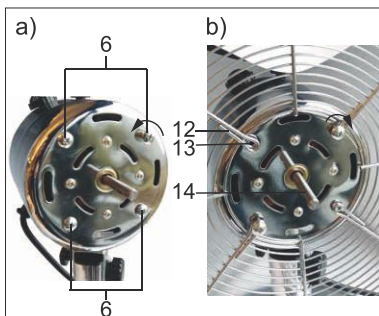

Fig. 12: Mounting rear part protective grills
11. Unscrew the 4 Phillips screws (6) from the engine block by turning them counterclockwise. Fig. 12 a)
12. Push the rear protective grille (7) with the handle upwards onto the motor axis (14).
The eyelets in the protective grille (12) must be flush with the holes (13) in the engine block. Fig. 12 a).
13. Insert the 4 Phillips screws through the eyelets in the protective grille and into the holes of the engine block (13).